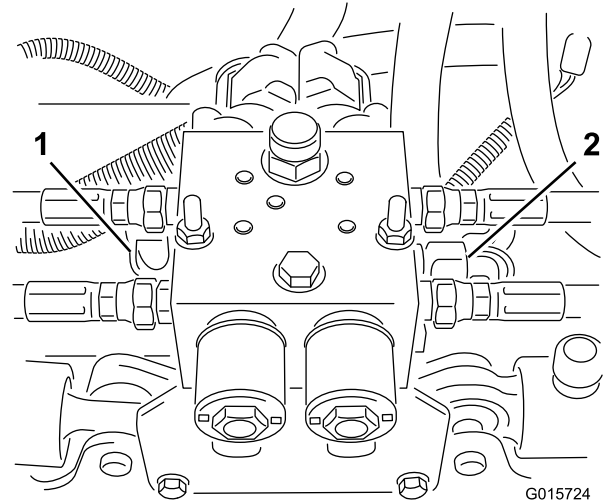

Figure 6
Note: Loosen the 2 hydraulic connectors on the right side and the gauge port (Figure 6).
13. Remove the hydraulic block from the mounting bracket by removing 2 bolts and 2 locknuts (Figure 6).